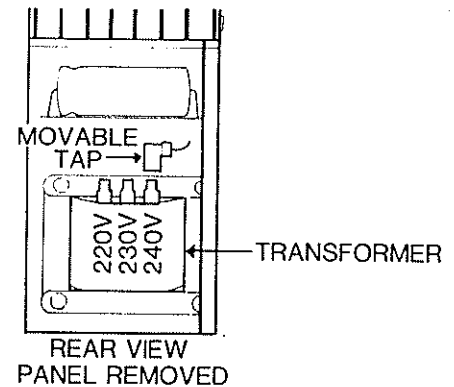

Figure 3.3C
3. Three input taps labeled 220V, 230V and 240V are located on the transformer. A wire is connected to one of these taps via a quick-disconnect terminal. Unplug this wire and connect it to the tap which corresponds to the desired nominal input voltage (see Figure 3.3C). Be sure to seat the connector so that it is held firmly in place.